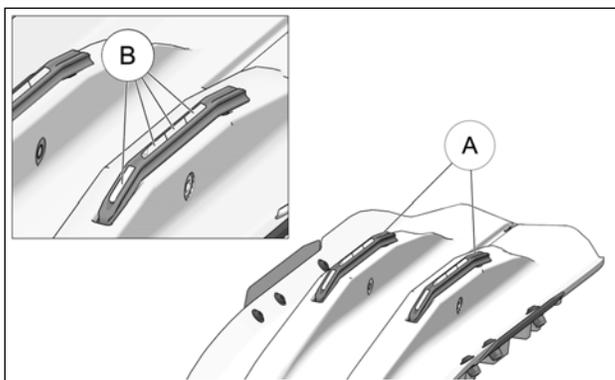

Figure 40
If the ski lacks support through turns on ice, check condition of carbide runners (A). If carbide inserts (B) show abnormal wear, cracks or missing fragments, replace the parts. If the carbide inserts show flat spots wider than 2 mm, they do not provide the necessary support. Replace them. Figure 40.